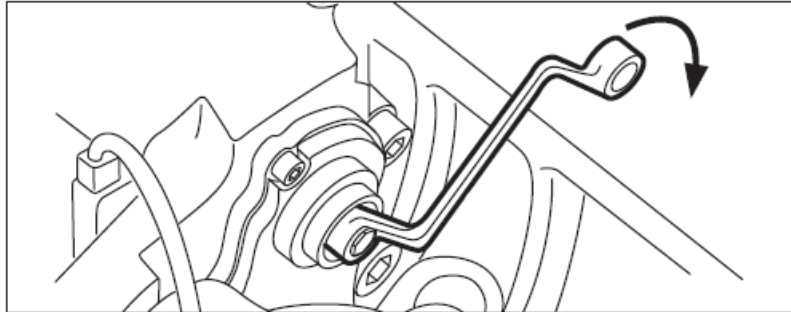

Figure 16: Clockwise Rotation
24. Using a 10mm, six point box wrench, turn the shear adapter clockwise until the pads contact the rotor. See **Figure 16.**